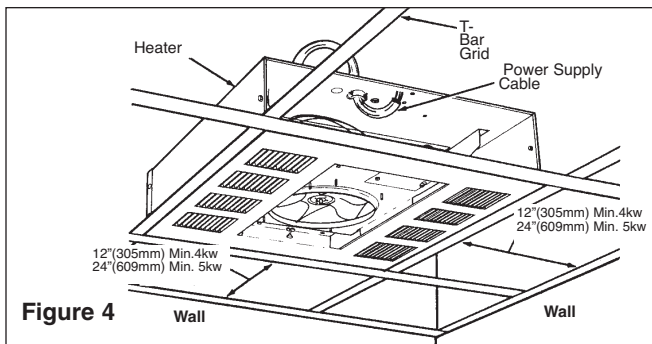

Figure 4
15. Position the heater in the T-bar grid (Figure 4) and secure as required. SEE WARNING NO. 9.